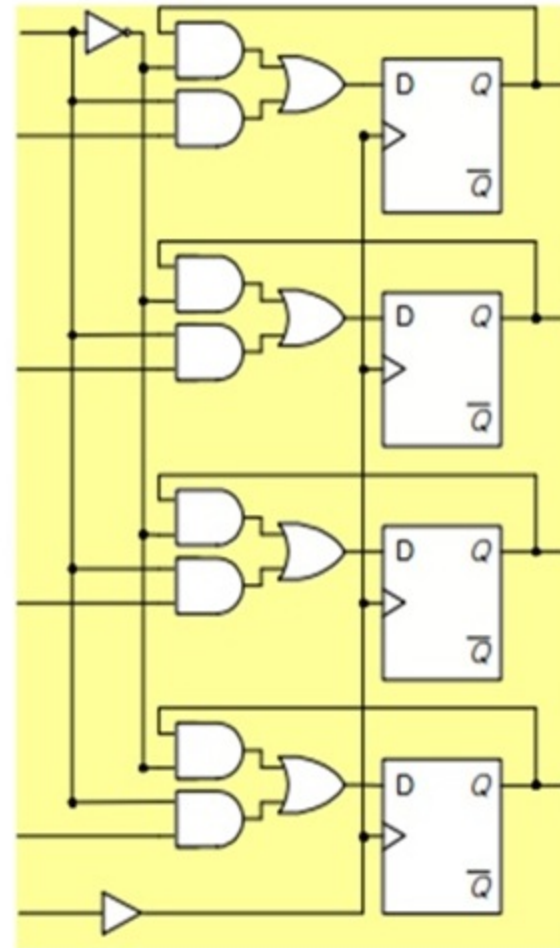

Fig. 2-7 4-bit register with parallel load
- ◆ A 4-bit register with a load control input : *Fig. 2-7*